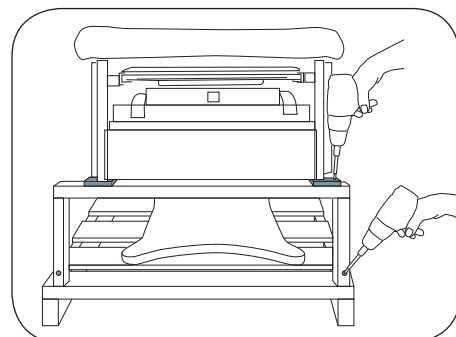

Figure 4. Remove Spacer and U-Brace Screws
4. Remove the 2 screws attaching the spacers on either side of the wooden U-shaped brace located under the front corners of the cabinet (Figure 4). Remove the 2 screws attaching the U-shaped brace to the pallet (Figure 4).